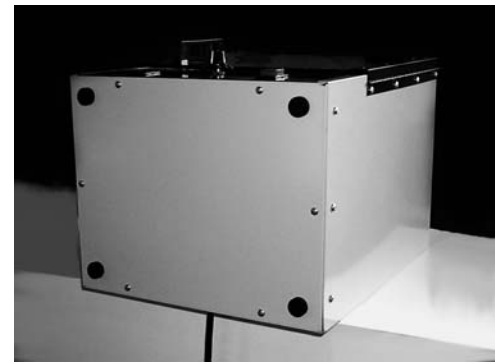

FIG. 1
Place the unit on its back with the bottom surface facing you. Install the (4) rubber feet into the (4) mounting holes by pressing in and turning. **(FIG 1)** Do not operate unit without the feet installed.